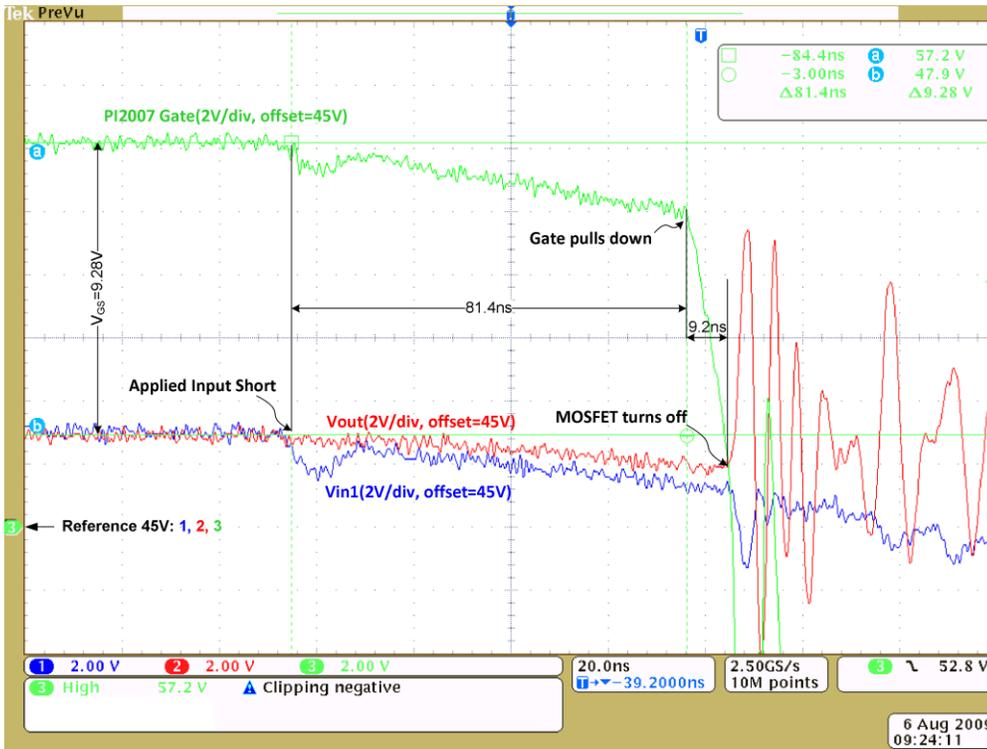

Figure 4: Plot of PI2007 response time to reverse current detection
- 5.5. Apply a short at one of the inputs (Vin1 or Vin2) when both controllers (U1 and U2) are on, PS1 and PS2 are enabled. The short can be applied electronically using a MOSFET connected between Vin and Rtn or simply by connecting Vin to Rtn. Then measure the response time between when the short being applied and the MOSFET being disconnected (or turned off). An example for PI2007 response time to an input short circuit is shown in Figure 4.